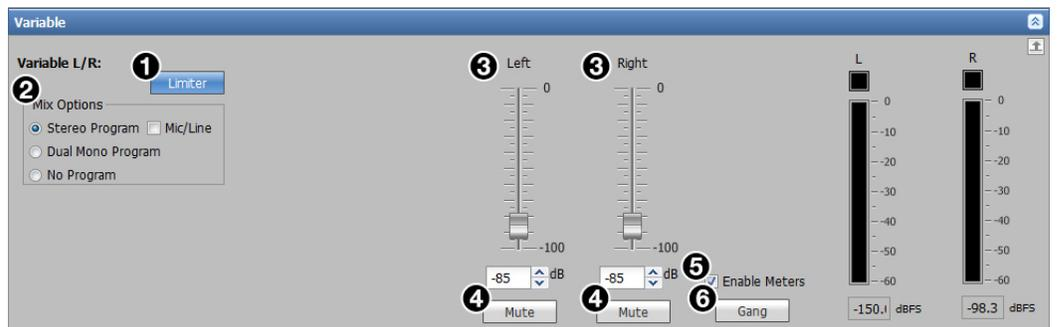

Figure 72. Variable Analog Audio Output Panel
2. If desired, deselect the **Mic/Line** checkbox in the **Mix Options** panel (see **figure 72, 2**, on page 113) to not include the mic/line inputs in the amplified output (this is selected by default).